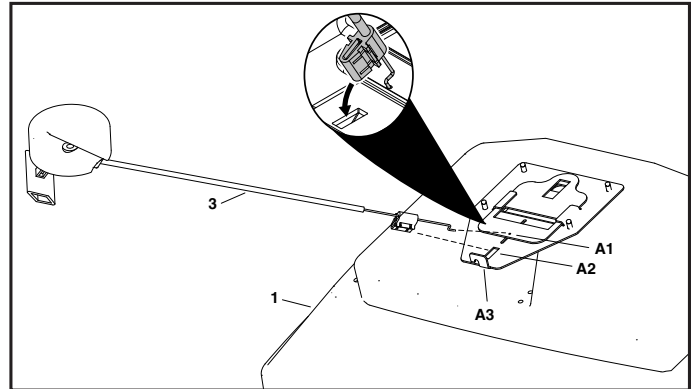

FIGURE 13
STEP 13: (SEE FIGURE 13)
- Attach the control cable (3) to the hopper (1) by inserting the end of the cable through the hole in the flow plate (A1) and pressing the plastic anchor firmly into the slot on the guide plate (A2) until it locks into place. Then place the cable into the cable guide (A3) on the guide plate (A2).